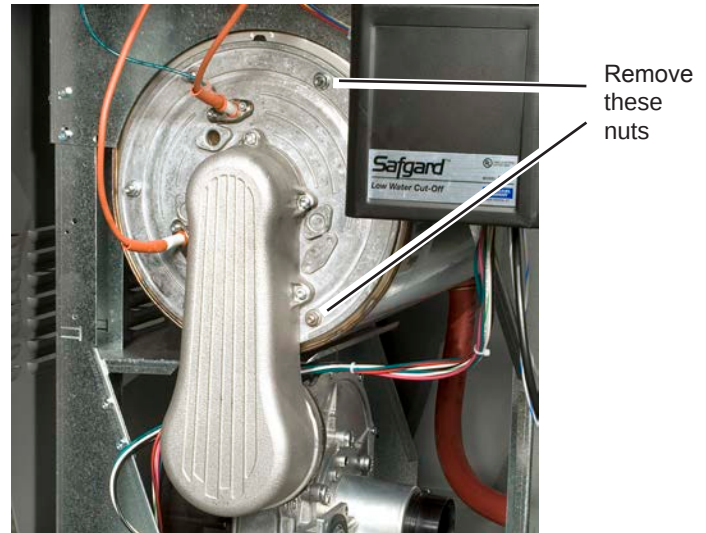

Fig. C5-7 - Removing the front of the heat exchanger
8. Now you can remove the front of the heat exchanger, with the blower and burner still attached. Undo the six 10mm nuts around the outside of the front plate of the heat exchanger. See Fig. C5-7. As you remove the part, note the position of the large black gasket. This gasket must be replaced every time you clean the unit or remove the front cover of the heat exchanger.